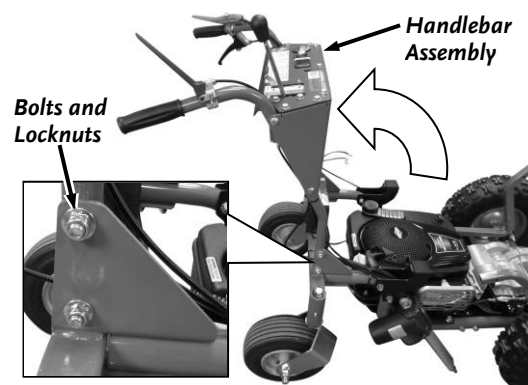

Figure 6
1. Lift the Handlebars to the operating position and install a 3/8-16 X 1-3/4 Flange Bolt and Locknut on each side using two 9/16" Wrenches (**Figure 6**).